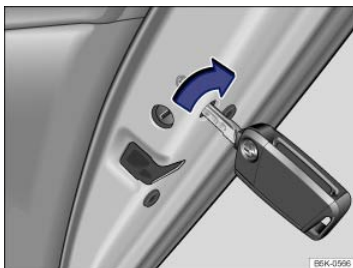

Fig. 69 On the front side of the rear passenger side door: Locking the vehicle with the key bit in the vehicle key.
- Insert the key bit into the slot \Rightarrow *Fig. 69*. On the passenger side doors, turn the key clockwise. On the driver side rear door, turn the key counterclockwise.